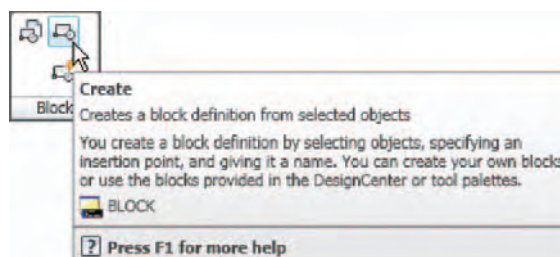
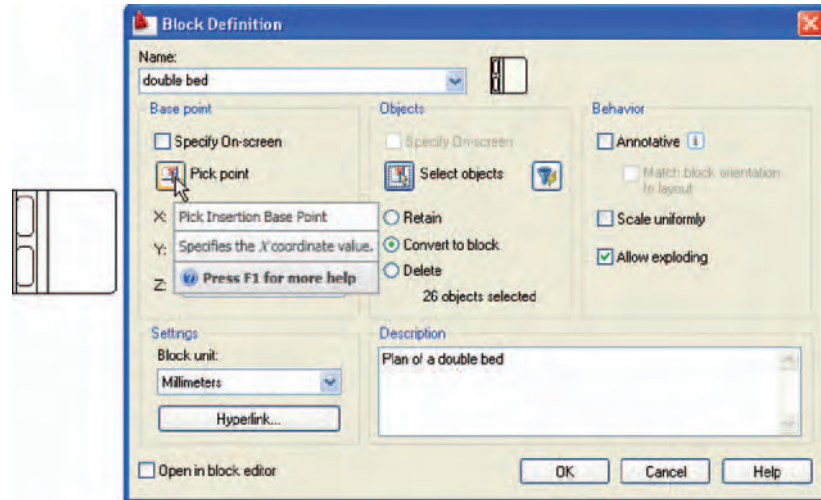

Fig. 9.2 Click **Create** tool icon in the **Home/Block** panel
Fig. 9.3 The Block Definition dialog with entries for the **double bed**
First example – Blocks (Fig. 9.3)
2. *Left-click* the **Create** tool icon in the **Home/Block** panel (Fig. 9.2). The **Block Definition** dialog (Fig. 9.3) appears. To make a block from the **Double bed** symbol drawing: